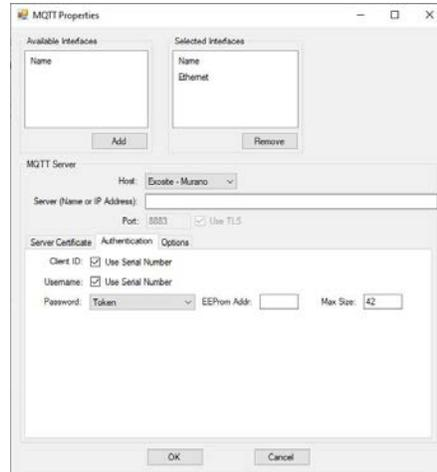

Figure 28-7B
- The Authentication tab requires additional configuration. Refer to Figure 28-7B.